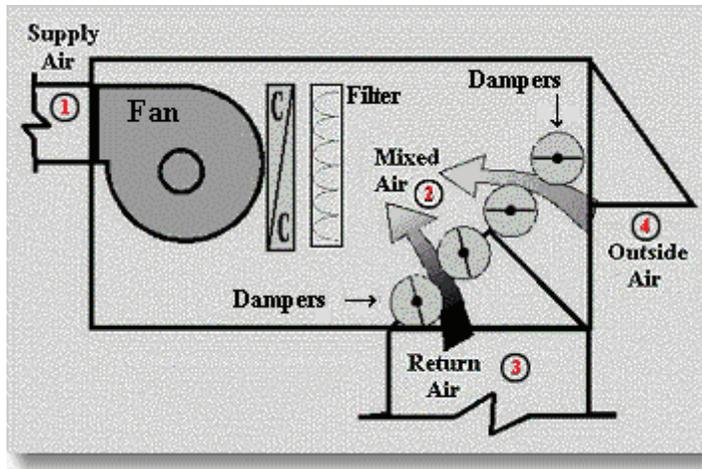

Figure 1 Diagram of a rooftop AC unit
Step 2: Place the Hobo XT thermistor tips in different air chambers (Figure 1). The loggers should be fastened securely with duct tape as the air at high speeds within the unit can lift the loggers away. Insure that the thermistor is suspended in the air chamber and not touching heating/cooling coil or other surfaces. If you are conducting long-term studies, consider securing the logger in such a way that provides easy access to the cable port.